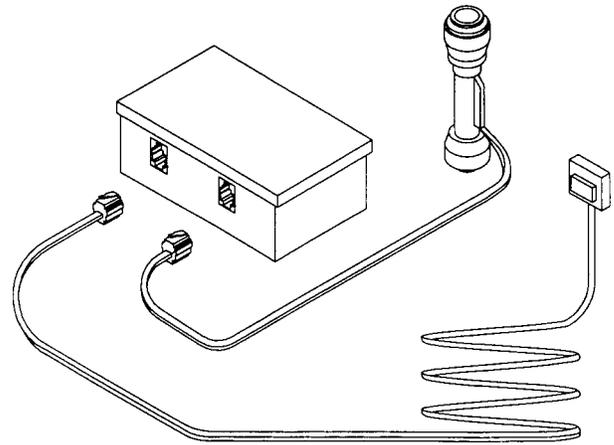

FIG. 3
This optional monitor (9) accessory (standard on Premier™ models) checks the TDS level of the drinking water each time the dispenser faucet is used. A green LED indicator (Fig. 3) mounted in the faucet signals if the TDS level is below the setpoint, an amber signal appears if it is above.